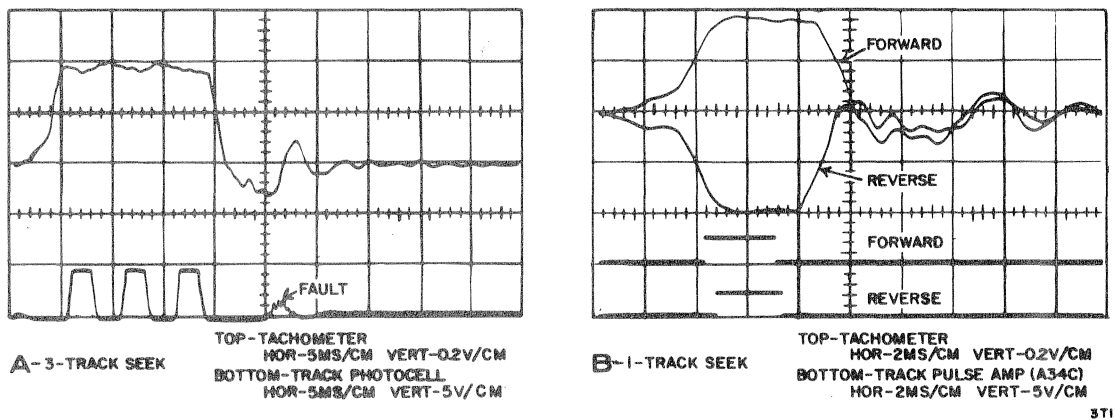

Figure 6-19. Dynamic Track Photocell Adjustment
- c. Refer to Figure 6-19, part A, for oscilloscope settings. Each of the track pulses should swing between a low voltage of  $-0.6 \pm 0.4$  vdc and a high voltage of  $+5.0 \pm 0.5$  vdc. There should be no track pulses of less amplitude during the settle time (as shown by FAULT on Figure 6-19, part A). If the extra pulses do exist, they will be corrected during the following steps.
- g. Refer to Figure 6-19, part B, for oscilloscope settings and compare waveforms. The track pulses should be approximately coincidental (leading and trailing edges of pulse vertically aligned).
- j. When the oscilloscope trace is similar to Figure 6-19, part B, tighten the three locking screws in the photocell mounting plate. Make certain that the trace does not change.